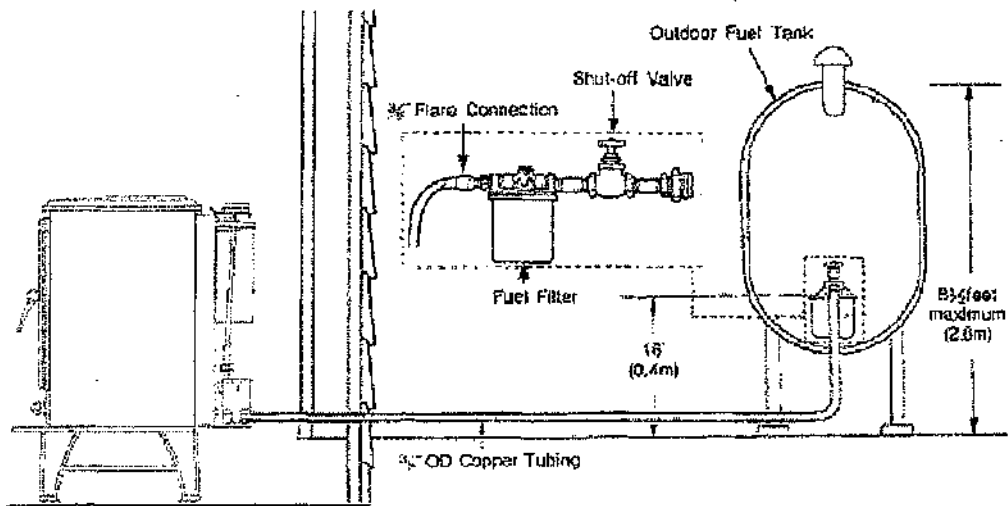

Figure 2. Oil connection
d. OIL SUPPLY (FIG 2)
Push the flue baffle handle fully forwards towards the wall. Check that the control knob will only go to setting No.1. If another setting, i.e. No.2 is possible, adjust the CAM so that only setting No.1 is possible (Fig.2).
Flue Stabiliser (Fig: 2)
Pull the flue baffle handle fully forwards to the open position (Fig: 2). Lift up the oil valve arming lever and release (Fig:2 and Fig:5).